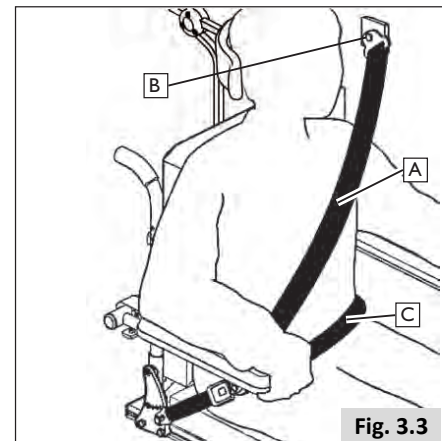

Fig. 3.3
14. Both pelvic and upper torso restraint belts must be used to restrain the occupant to reduce the possibility of head and chest impacts with the vehicle components and serious risk of injury to the user and other vehicle occupants (Fig. 3.3).
15. The upper torso restraint belt (A) should be mounted to the vehicle (B) pillar - failure to do so will increase the risk of serious abdominal injuries to the user (Fig. 3.3).
17. The pelvic restraint belt (C) must be worn low across the front of the pelvis so that the angle of the pelvic belt is within the preferred zone of 30 to 75 degrees to the horizontal (Fig. 3.3).
19. The upper torso restraint belt (A) must fit over the shoulder and across the chest (Fig. 3.3).